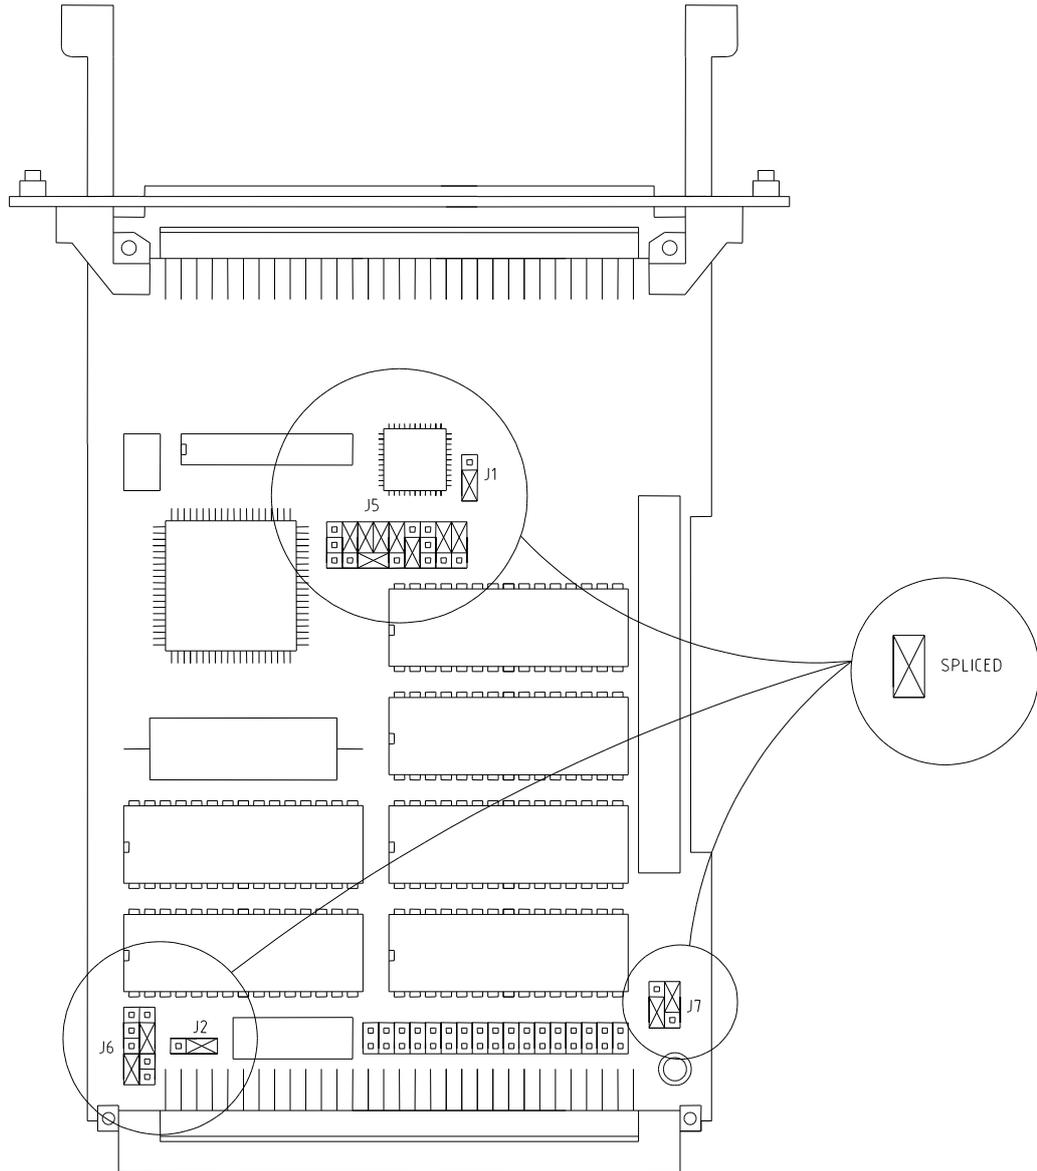

Figure 4, FGM 130 V332, Jumper Location.
A jumper connects the backup battery to the module. This jumper connects pins 1-2 on header J2, Ref. Figure 4. The VCPU33-C4E is shipped with this jumper disconnected, thus disabling any battery backup power and maximising battery life. With the jumper installed, the battery preserves critical system parameters in the CMOS RAM.
- Install the J2 jumper connector between pin 1 and 2, Ref. **Figure 4**.